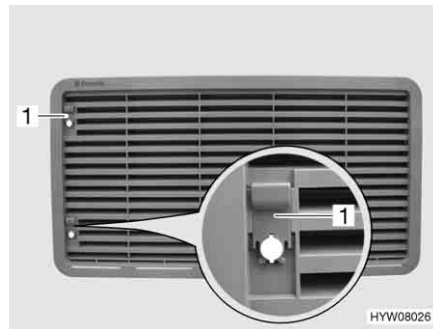
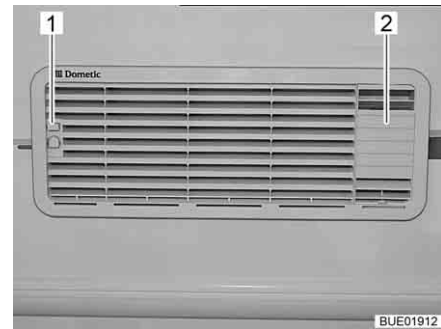

Fig. 171 Refrigerator ventilation grill
Fig. 172 Refrigerator ventilation grill
- Depending on the version, push up the sliding trap (Fig. 171,1 or Fig. 172,1).
- Release the insert for exhaust emission (Fig. 172,2) at the top and remove.